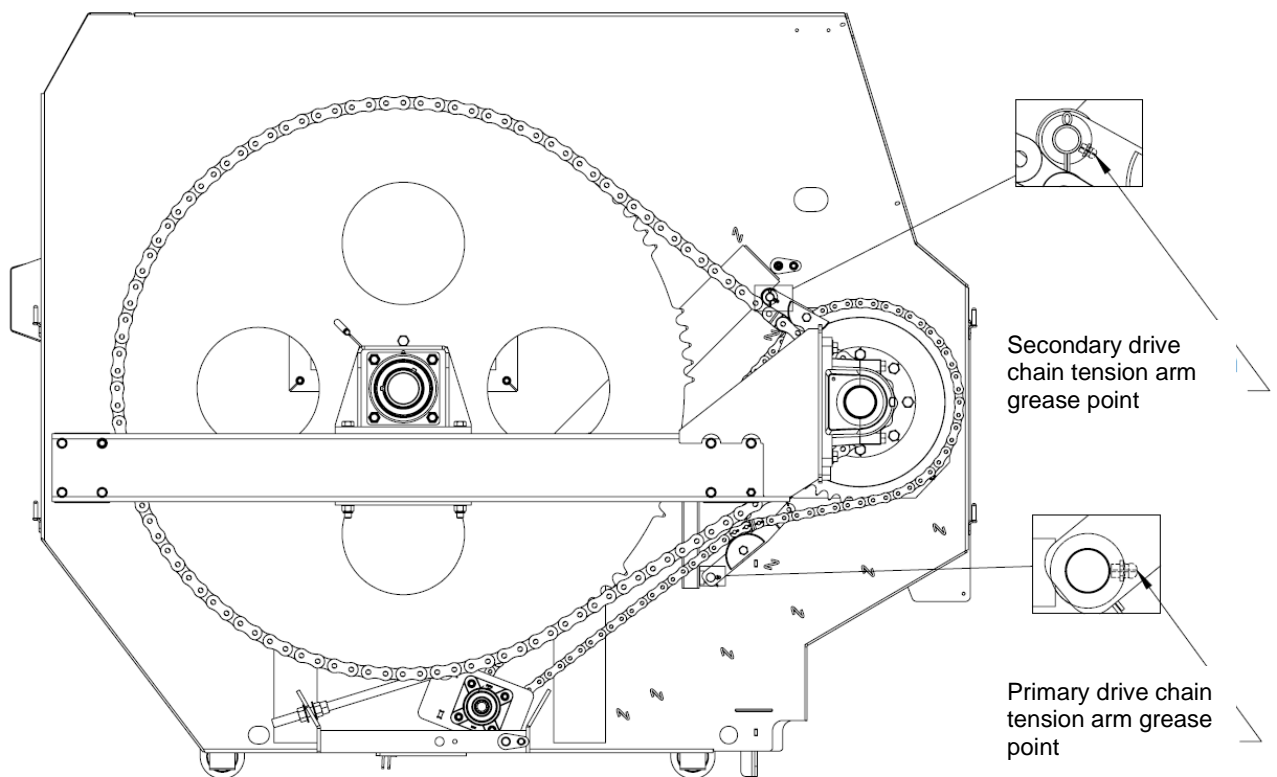

Figure 15: Tension arm grease points
- 2 grease fittings, 1 on the secondary chain tension arm and 1 on the primary chain tension arm (see Figure 15)